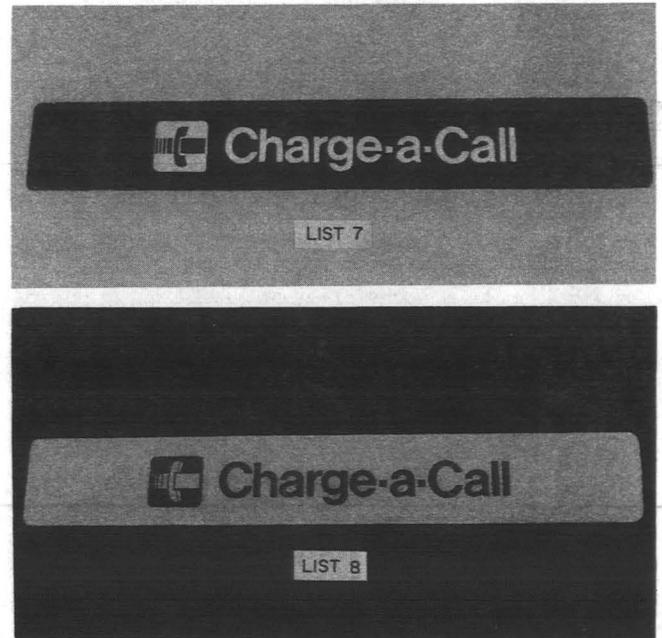

Fig. 1—KS-19945, Lists 7 and 8 Signs
2.01 Two signs are available (Fig. 1) as follows: